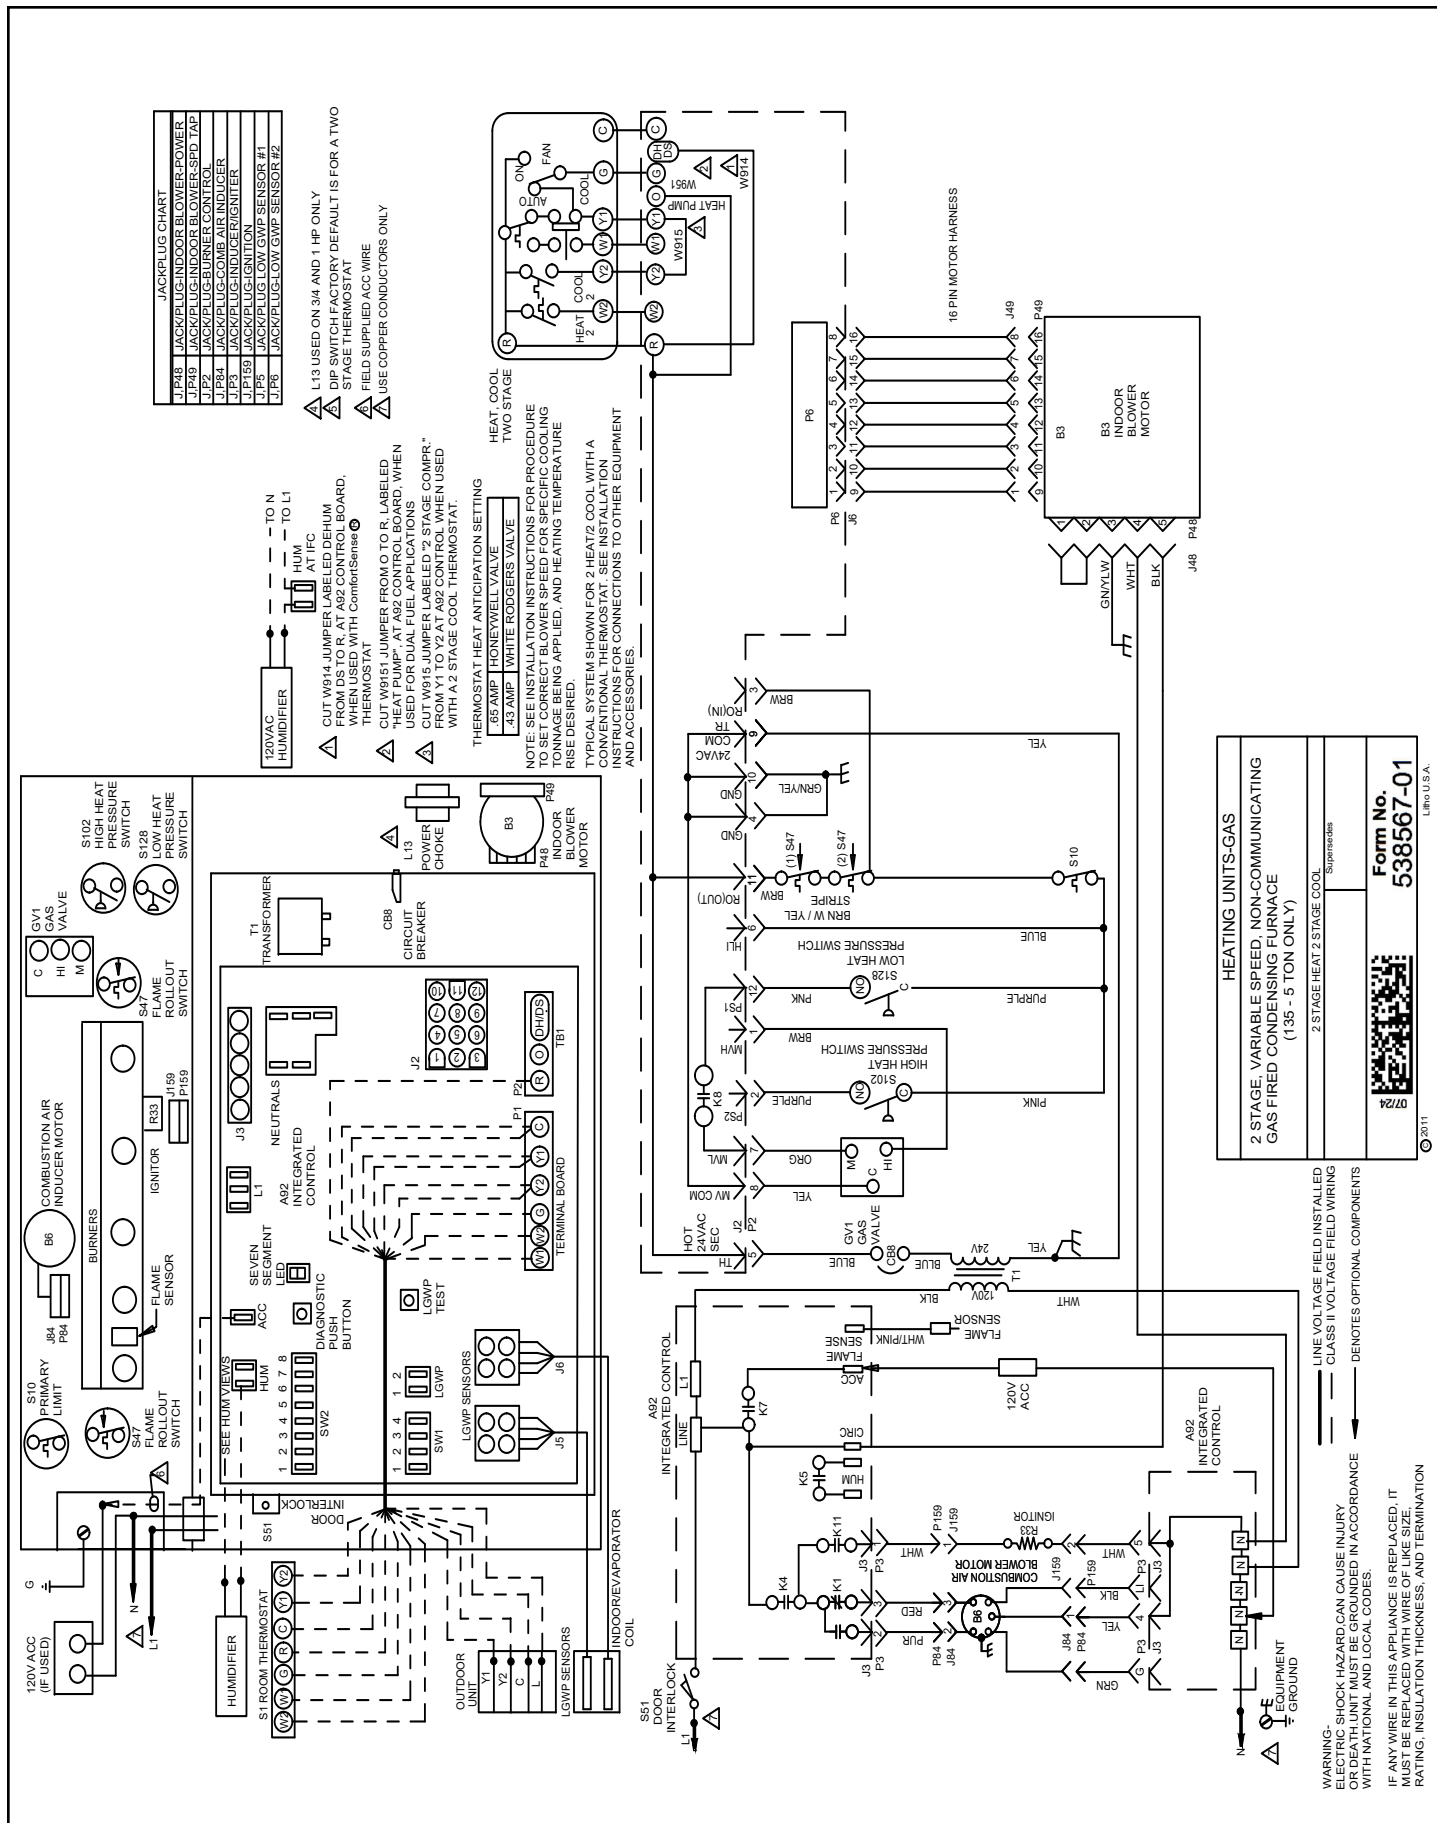

Figure 71. Typical Field Wiring Diagram (135)
Refer to Figure 70 and Figure 71 for field wiring.
5. Complete the wiring connections to the equipment. Use the provided field wiring diagram shown in Figure 70 and Figure 71. Use 18 gauge wire or larger that is suitable for Class II rating for thermostat connections.